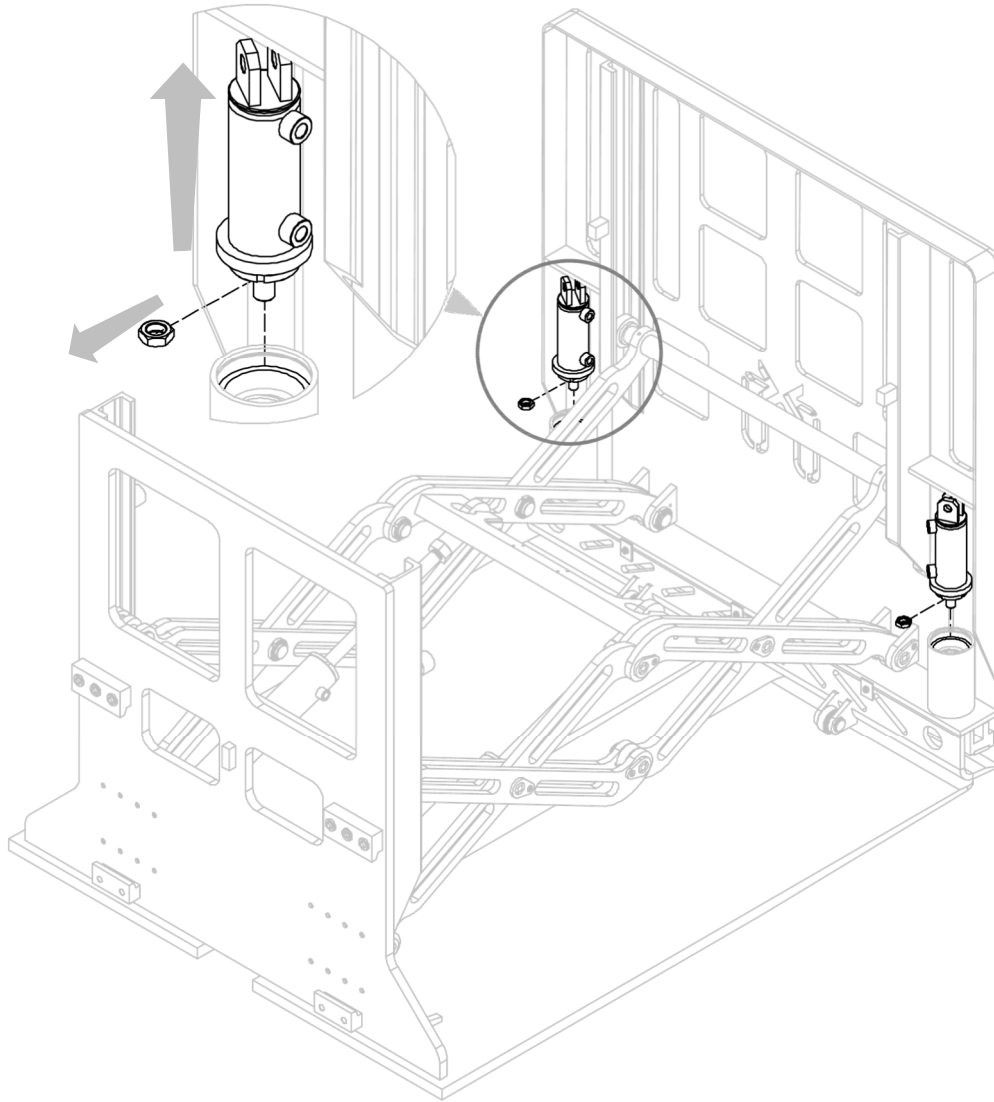

Figure 14
3. Unscrew the rods from the relative blade thrust pins and remove the cylinders (*Figure 14*).